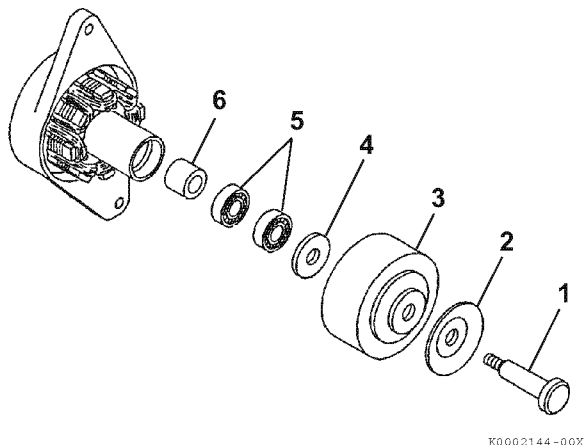

Figure 11-27
4. Install the front bearings (Figure 11-27, (5)) and spacer (Figure 11-27, (6)).
5. Install the flat washer (Figure 11-27, (4)), flywheel (Figure 11-27, (3)), pulley half (Figure 11-27, (2)) and through-bolt (Figure 11-27, (1)).